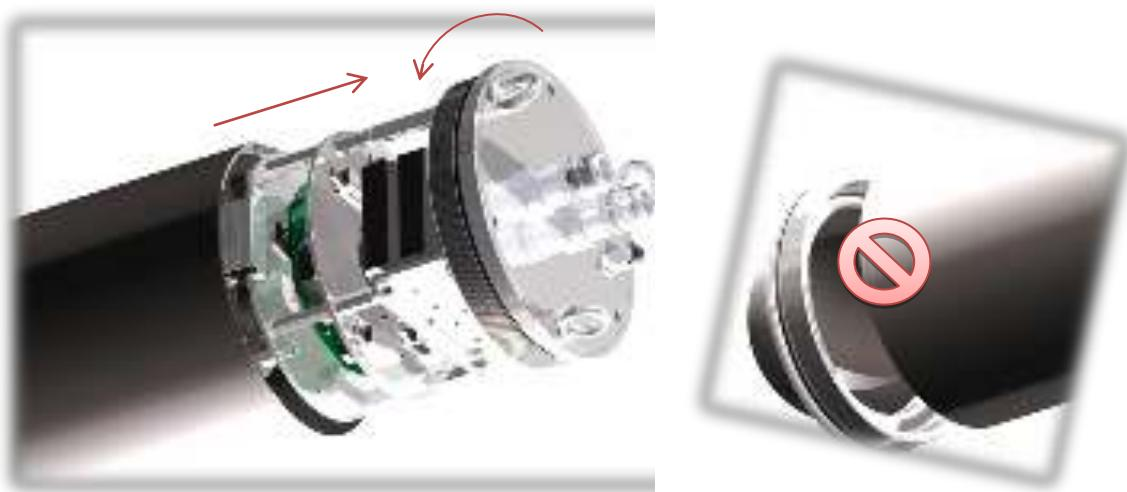

Figure 10-9 Opening of the cover flange type T08-TNXCD
- Counterclockwise, unscrew the cover flange with fine thread (M18x1.5) (ISO-metric profile clockwise). It is suggested to equip the external M8x1.25 thread holes with screws, eyelets etc. in order to facilitate the rotary movement (q.v. figure 10-9). Attention: Also rotate the cable (pig tail) if necessary!